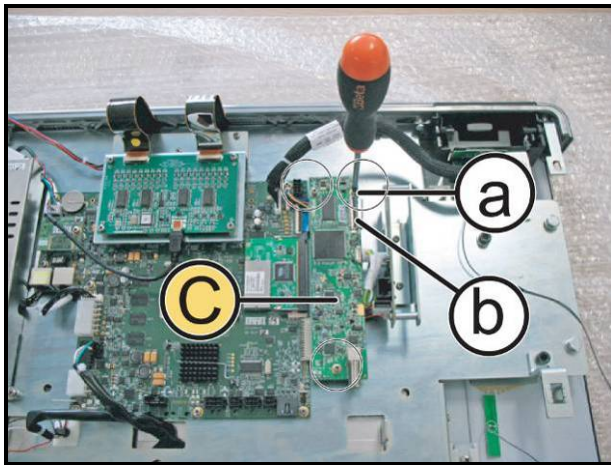

Figure 7.5-5
2. Remove the TUNER board (C) as illustrated in Figure 7.5-5 onward.